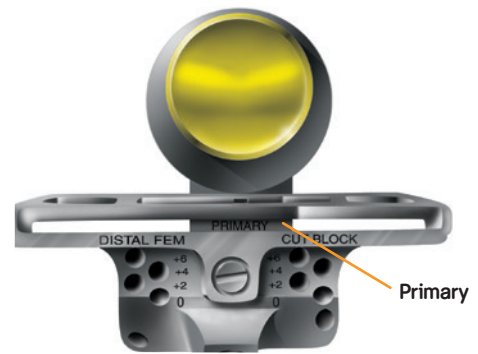

Figure 4
- 1 Assemble the distal femoral cutting block with the distal resection stylus by pressing the gold button and sliding the stylus until it hits a stop (Figure 4).